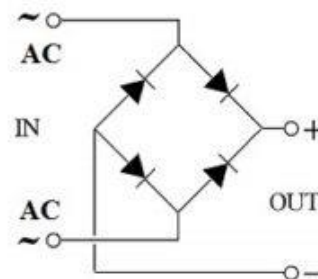

Fig 2: Schematic for diodes wired as a full-wave bridge rectifier
A schematic for the full wave bridge rectifier is drawn in Fig 2. Bridge rectifiers are classified in the same way as single diodes, i.e. by their maximum reverse voltage or Peak Inverse Voltage (PIV) and Forward Current (IF). It is labeled as “BR” or “BD” and sometimes as “D” also in the electronic circuit.